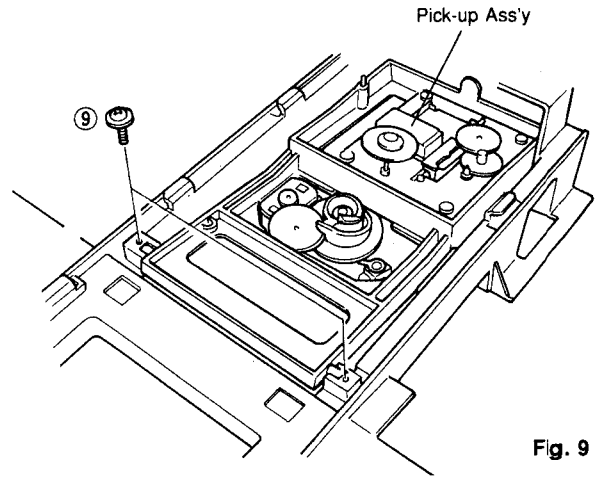

Fig. 9
- a. Remove 2 screws (⑨) and then remove the Pick-up Ass'y as shown Fig. 9.